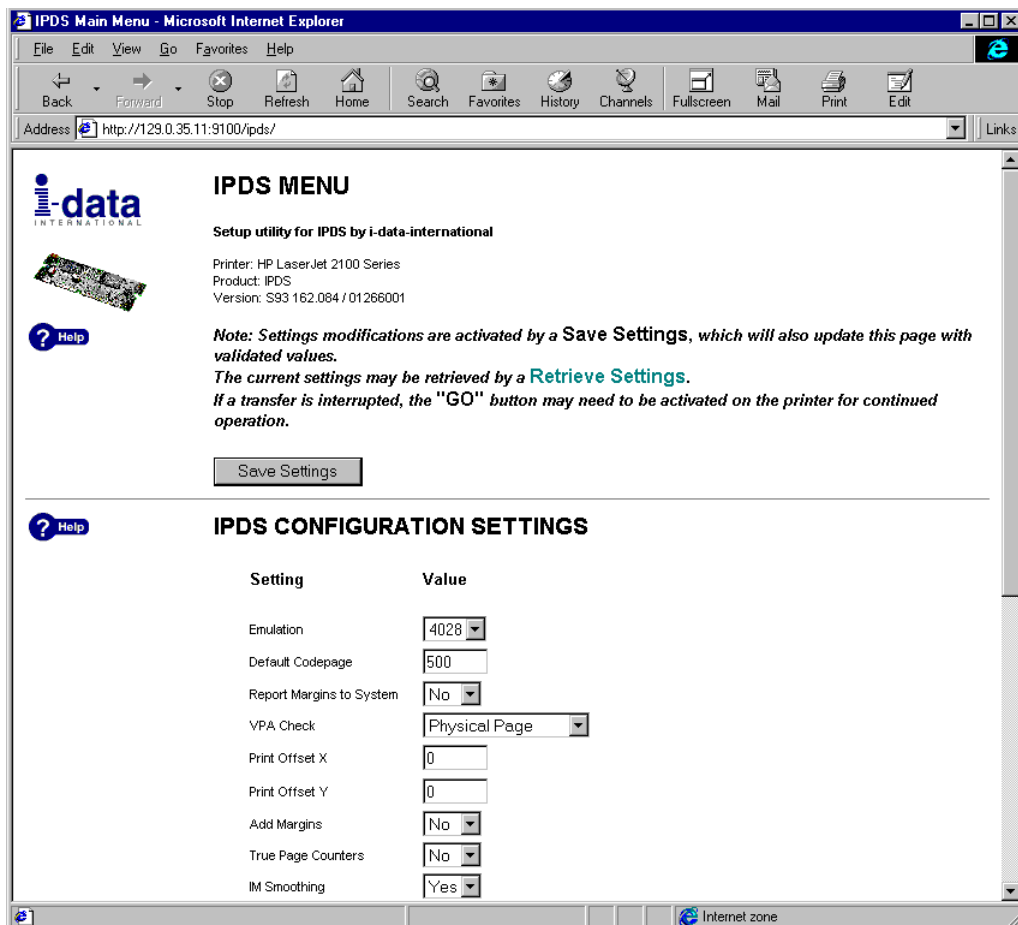

Figure 1, IPDS Menu
1. Go to IPDS CONFIGURATION SETTINGS to configure the IPDS DIMM. The settings are shown in *Figure 1*.